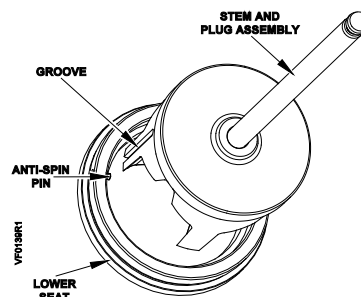

Figure 2.
1. Locate the groove on the plug and align it with the anti-spin pin in the seat. See Figure 2.
4. Locate the groove on the plug and align it with the anti-spin pin in the seat (similar to Figure 2). Make sure the anti-spin pin is in the plug groove.